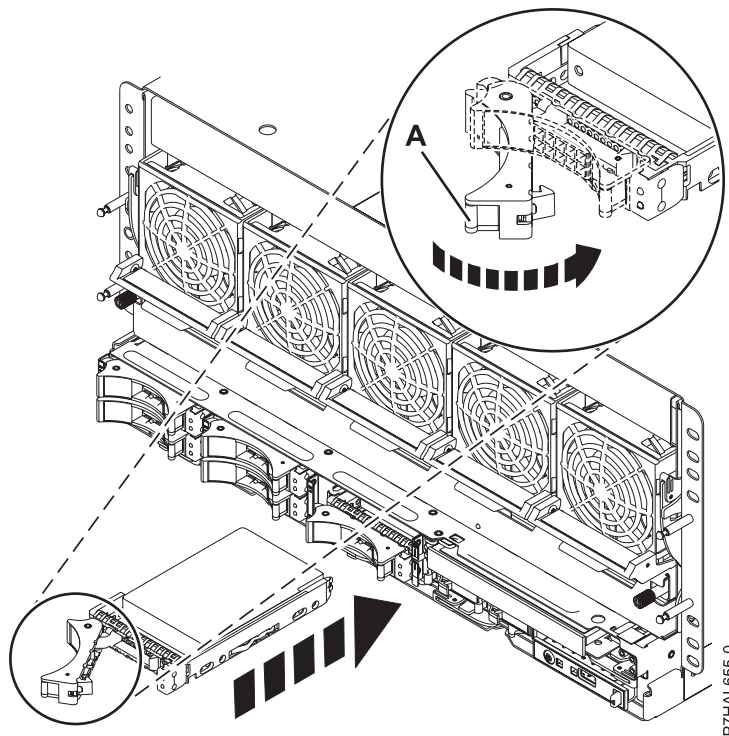

Figure 38. Replacing a disk drive in the system
7. When the identify LED flashes, slide the disk drive or solid-state drive all the way into the system or an expansion unit, and push the drive handle (A) in until it locks, as shown in Figure 38.